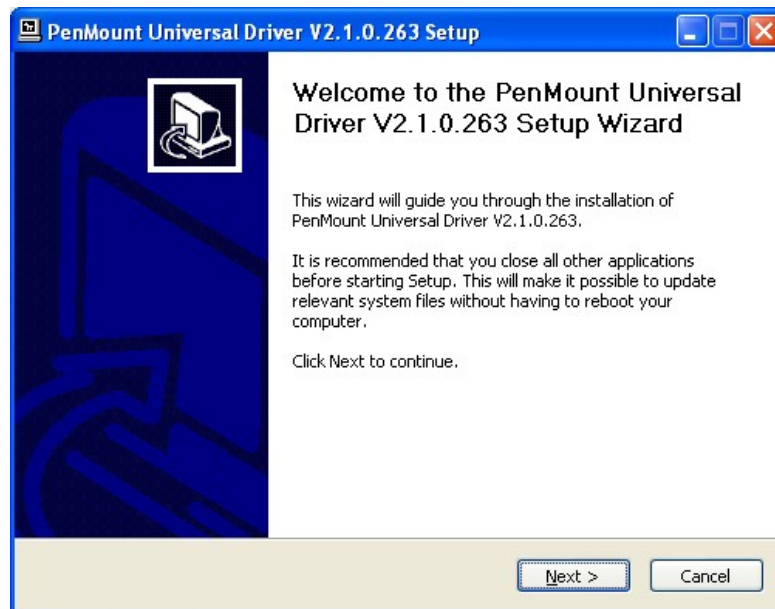

Figure 6-18: Touchscreen Driver Welcome Screen
Step 4: A **Welcome Screen** appears (**Figure 6-18**).